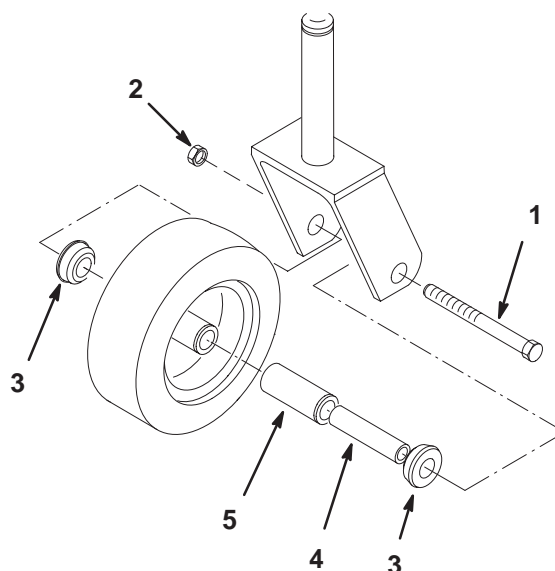

Figure 31
1. Remove the locknut and wheel bolt holding the caster wheel to the caster fork (Fig. 31).
2. Remove the bushing, then pull the spanner bushing and roller bearing out of the wheel hub (Fig. 31).
3. Remove the other bushing from the wheel hub and clean any grease and dirt from the wheel hub (Fig. 31).
4. Inspect the roller bearing, bushings, spanner bushing and inside of the wheel hub for wear. Replace any defective or worn parts (Fig. 31).
5. To assemble, place 1 bushing into the wheel hub. Grease the roller bearing and spanner bushing and slide them into the wheel hub. Place the second bushing into the wheel hub (Fig. 31).
6. Install the caster wheel into the caster fork and secure with the wheel bolt and locknut. Tighten the locknut until the spanner bushing bottoms against the inside of the caster forks (Fig. 31).